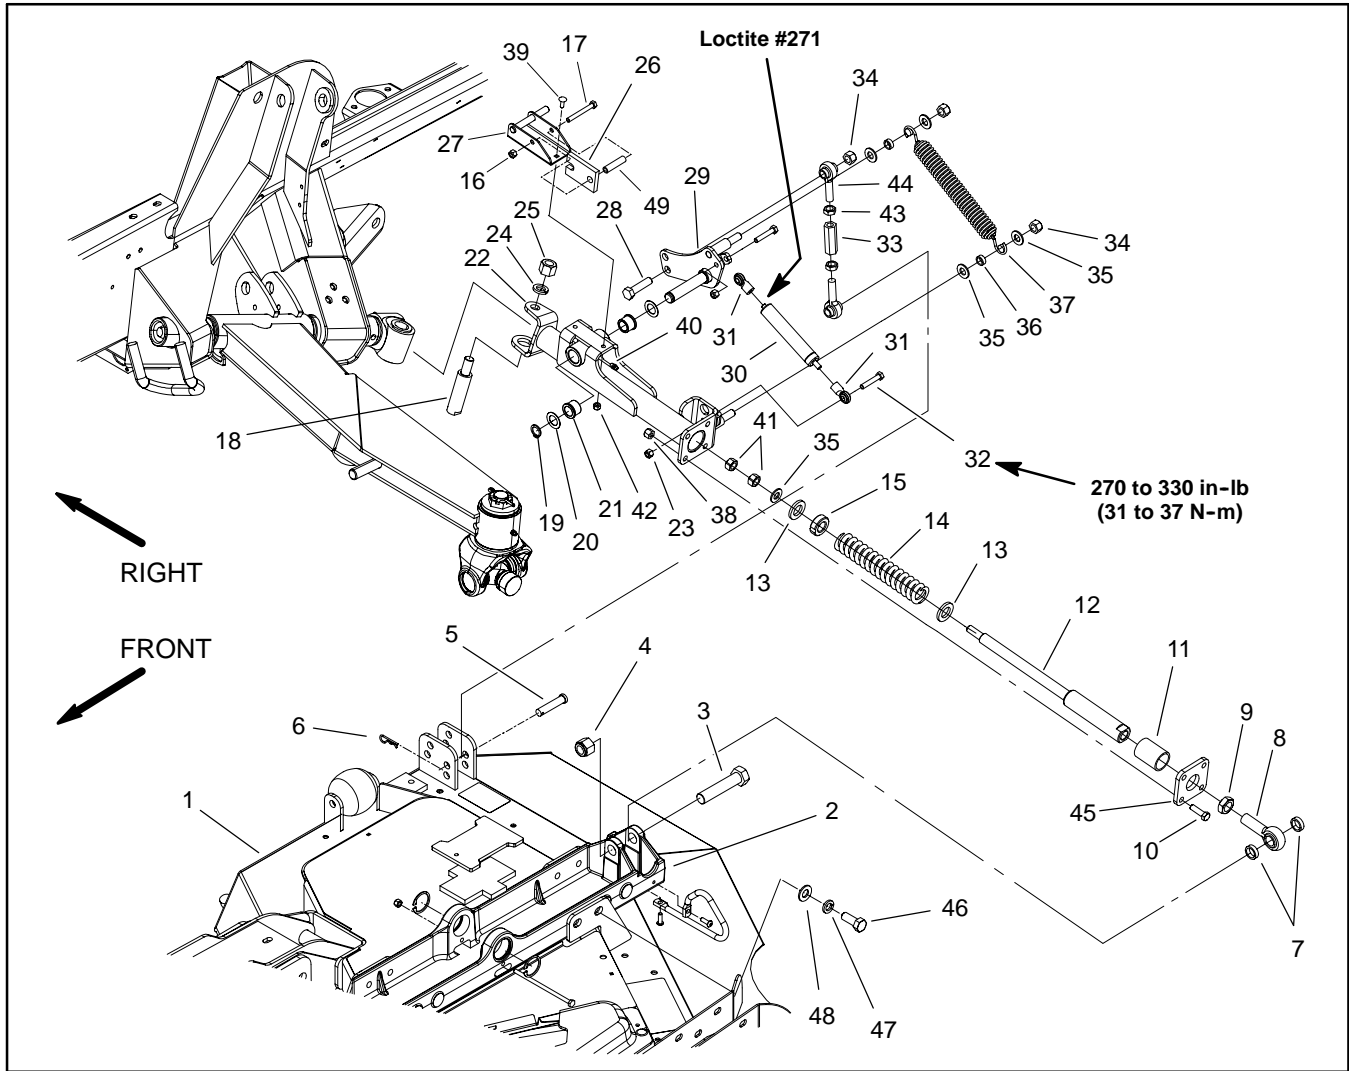

Figure 8
### Rear Arm Removal (Fig. 8)
### Rear Arm Disassembly (Fig. 8)
1. Disassemble rear arm assembly using Figure 8 as a guide.
### Rear Arm Assembly (Fig. 8)
## Rear Arm Installation (Fig. 8)